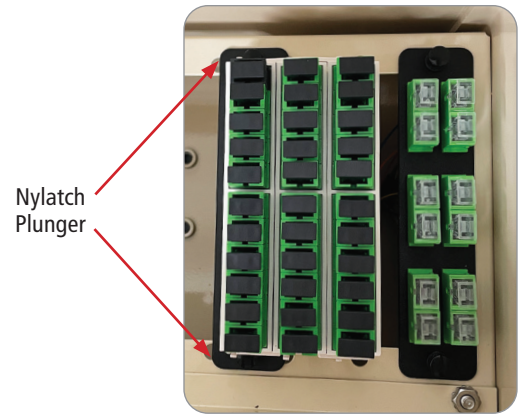

Figure 19
3. Install the IDEAA LGX-118 Rack Mount Bracket into the LGX-118 mounting fixture by pressing in the two nylatch plungers. The IDEAA Splitter Module should be oriented with the bracket on the left side (Figure 19).